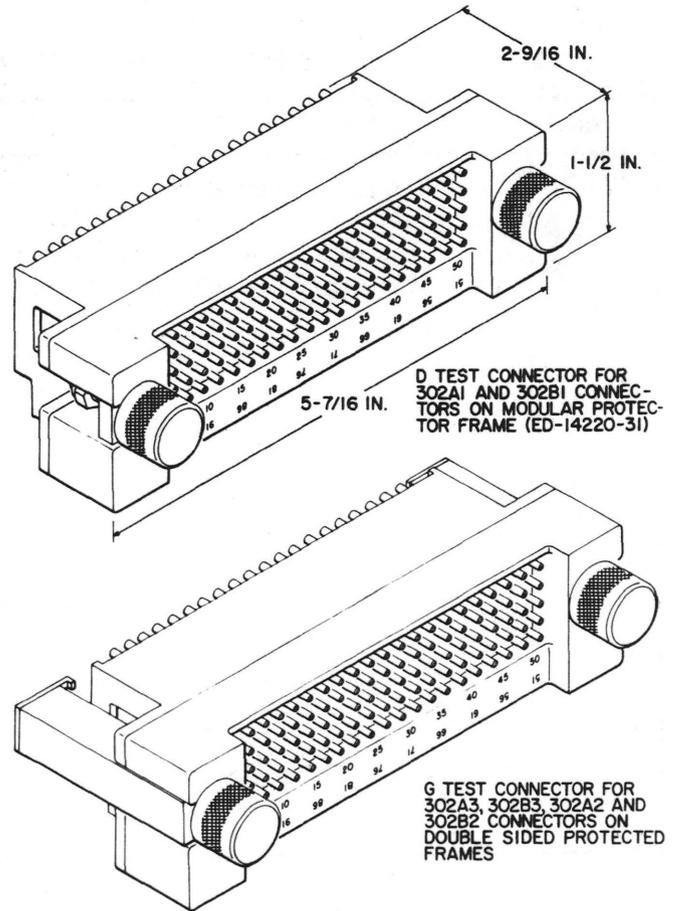

Fig. 3—D and G Test Connector Mounting Arrangement
3.03 The D test connector is used with the 302A1-, 302B1-, and 302E1-type connectors on the ED-1A220-31 modular protector frame (Fig. 3) and is similar to the G test connector except for the mounting arrangement (Fig. 4).